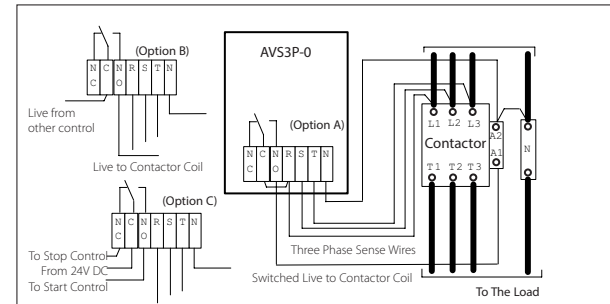

Figure 1. AVS3P-0 wiring diagram
1. Connect the AVS in accordance with the wiring diagram opposite (fig 1). Ensure that the R, S & T sensing connections to the AVS come from the supply side of the contactor.
2. The output from the AVS is a changeover relay with volt-free contacts. There is a common (C), a normally open (NO) and normally closed (NC) contacts. When the AVS3P-0 is in the Red or Amber condition then C is connected to NC. When the AVS3P-0 displays Green then C is connected to NO. Make sure that the control current you wish to switch does not exceed the rating of the AVS3P-0 relay (max 16Amps).